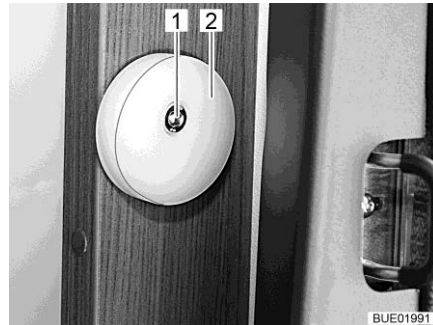

Fig. 120 Pull-down bed guide
- Release the screw (Fig. 120,1).
- Adjust the guide disc (Fig. 120,2).
- Tighten the screw (Fig. 120,1).